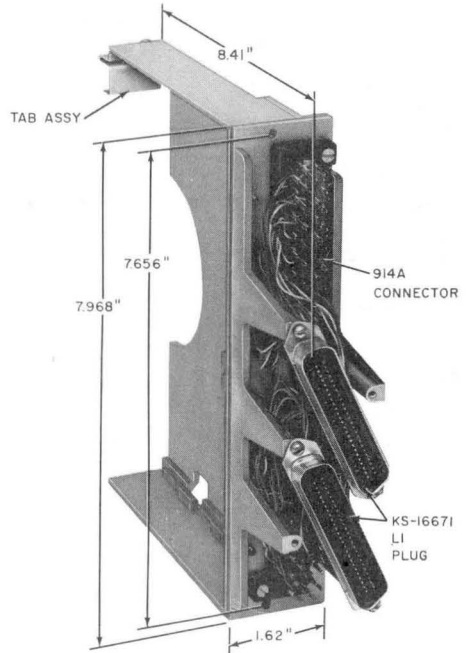

Fig. 2—69D or 69G Apparatus Mounting (Without Guide Assembly)
- (c) The 69D or G apparatus mounting consists of two 914A (40-pin) connectors wired to two KS-16671, List 1 plugs mounted on the back of the apparatus mounting (Fig. 2).